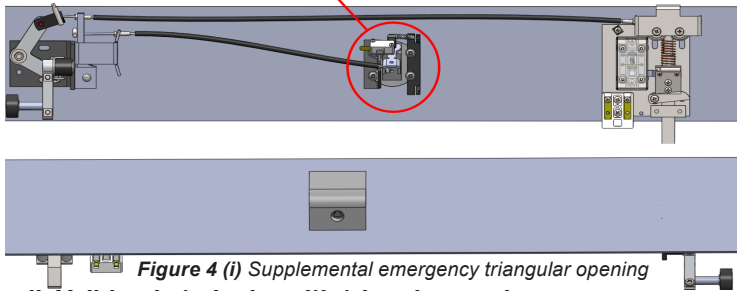

Figure 4 (i) Supplemental emergency triangular opening
- i. Hole of 60mm diameter is drilled in the door frame to install supplemental emergency opening function. Bevel gear, lock and triangular opening are connected with bowden cables as shown in Fig.4 (i)